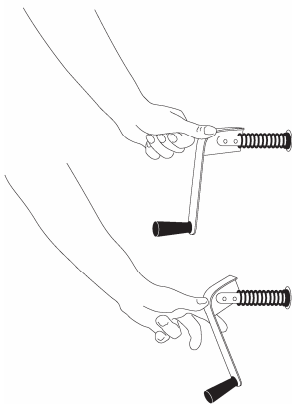

Figure 2.1B
- **To retract a standard hand crank (Figure 2.1B):**